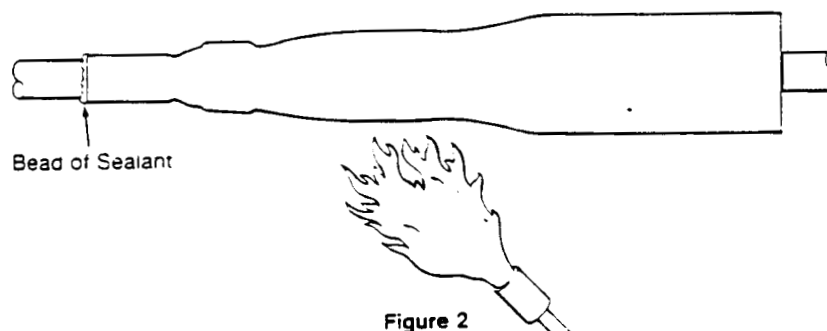

Figure 2
7. Shrink sleeve over splice and cable by starting at the center and work to one end, then work from center to the other end. Figure 2. A bead of sealant at both ends of sleeve indicates the installation is complete.